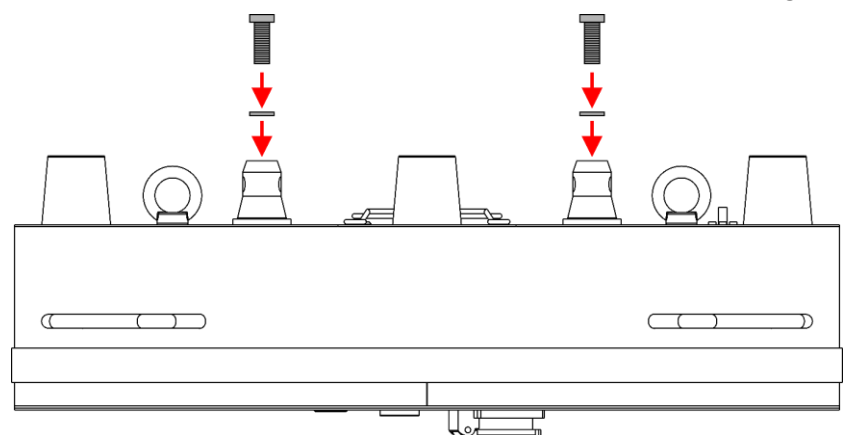

Fig. 09
- 02) Put the washers (B) and the bolts (C) into the half connectors (A), as shown in Fig. 09.